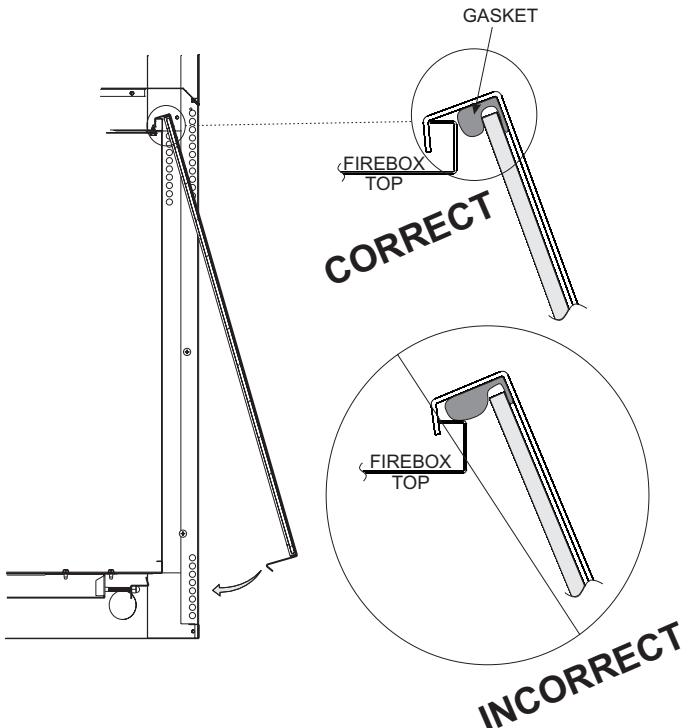

Figure 81
1. When installing the glass door, make sure that the door top flange is hooked over the firebox top flange as illustrated in the "Correct" view in **Figure 81**.
Important: Do not allow the gasket across the top of the door to roll up on top of the firebox flange as shown in "Incorrect" view in **Figure 81**.
- Check all latches or other door retention components for proper operation, tension, and relief mechanisms are free from obstructions. **See Figure 81.**